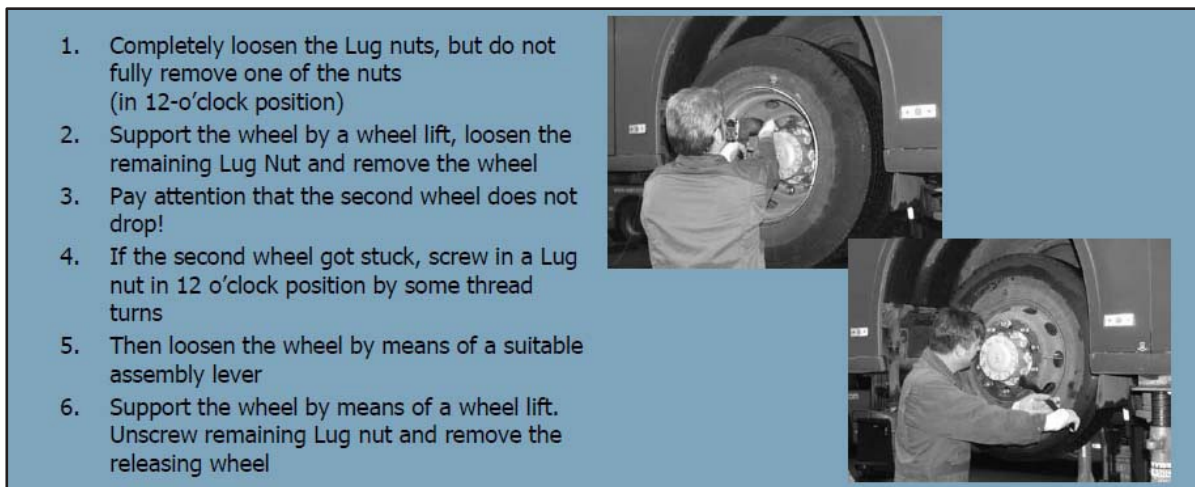

Figure 5 - Wheel Removal
1.6. Remove the left and right wheels (see Figure 5).